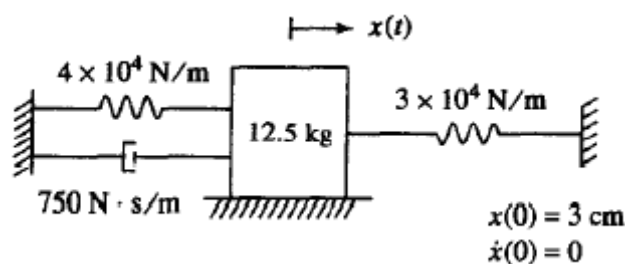

Figure 5
8. For the system shown in figure 5, determine the damping ratio and frequency of damped oscillations. [16]